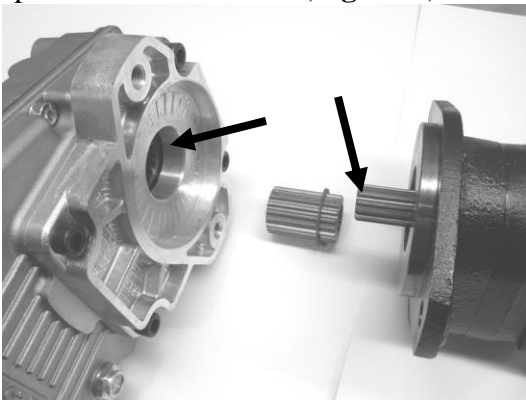

Figure 8—Inspect the pump shaft and increaser splines for excessive wear or damage.
4. Thoroughly clean and inspect the hydraulic pump shaft and internal splines in the increaser (**Figure 8**).